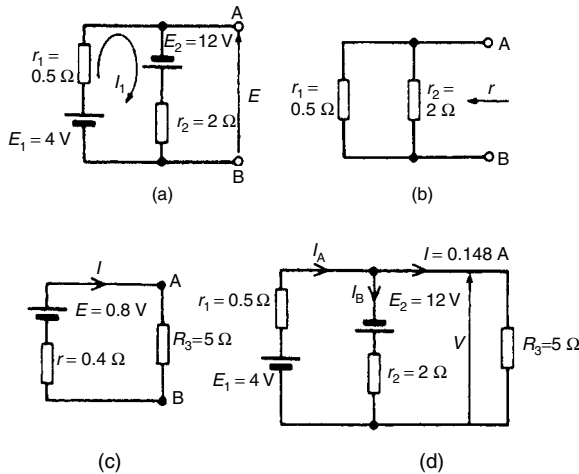

Figure 13.43
- (i) The 5 Ω resistance is removed from the circuit as shown in Fig. 13.43(a)
- (iii) Removing the sources of e.m.f. gives the circuit shown in Fig. 13.43(b), from which resistance
- (iv) The equivalent Thévenin's circuit is shown in Fig. 13.43(c), from which, current
From Fig. 13.43(d),
Also from Fig. 13.43(d),
[Check, from Fig. 13.43(d), $I_A = I_B + I$, correct to 2 significant figures by Kirchoff's current law]